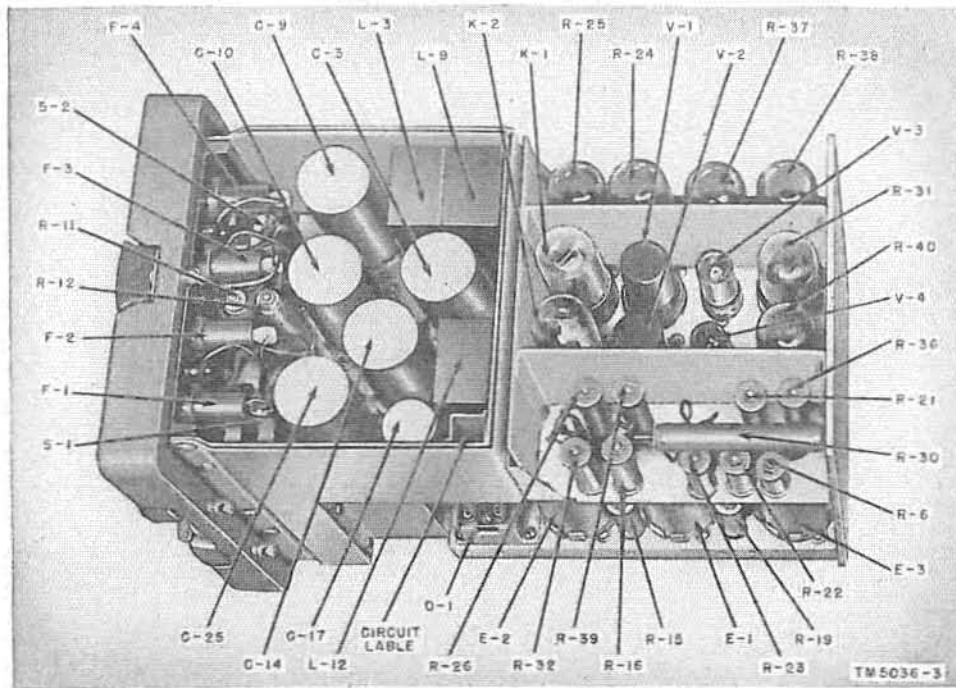

Figure 65. Power supply PP-112/GR, top view of chassis.
b. THERMAL RELAYS AND BALLAST TUBES. To gain access to the thermal relays and ballast tubes, it is necessary to remove the panel-chassis assembly from the case (par. 123). All of these parts are accessible from the top of the chassis (figs. 65 and 66). Remove the relays or ballast tubes in